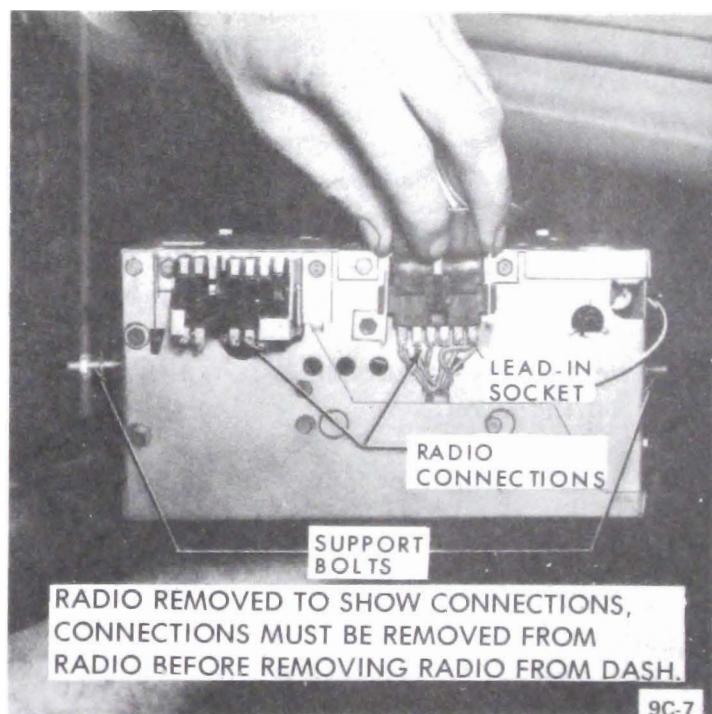

Figure 9C-12
6. Unscrew the nuts on the radio support bolts and remove the radio from the opening, lowering it from behind the instrument panel. See Figure 9C-12.